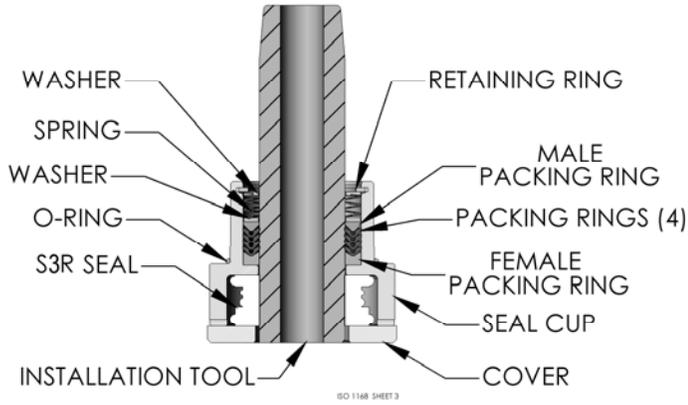

Figure 13b – Seal Cup Assembly
- To install the S3R seal in the seal cup refer to Figures 13b & 13c . Place the S3R seal on the packing installation tool with the upper segment toward the tapered end of the installation tool. Insert the installation tool, with the S3R seal, into the seal cup, with the tapered end toward the packing rings. Place seal cup cover on seal cup and secure with the two short capscrews